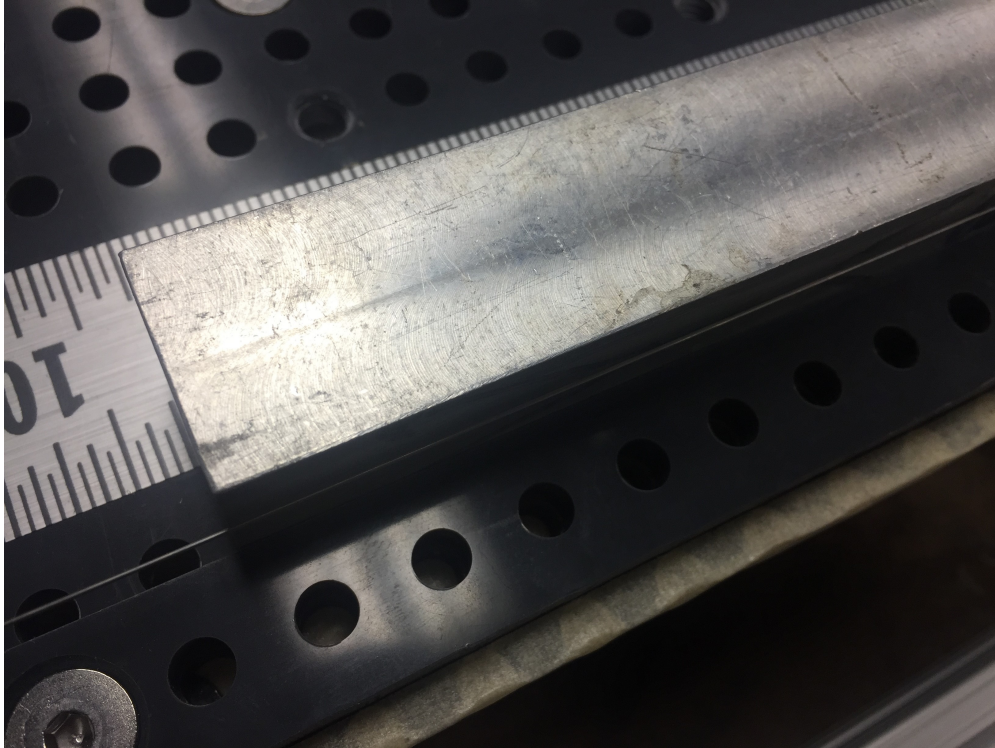

Figure 1.16: Calibrate Wire Origin in the Horizontal Direction
6. Place a Aluminum block on the work panel against the work panel guiding block, and observe from top down as shown in fig 1.16 below. Both the far left and far right of the wire should sit right against the aluminum block, measure the amount that needs to be adjusted in millimeters.